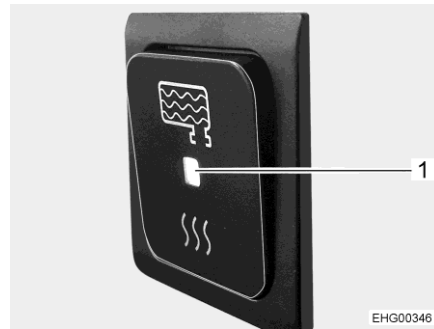

Fig. 95 On/Off switch, switched on
If the On/Off switch of the control has been switched on (Fig. 95), the waste water tank heater switches on automatically as soon as the external temperature drops below 0 °C. This protects the waste water tank from frost.
- Press lower part of the On/Off switch. The LED indicator (Fig. 95,1) is lit.
- Press upper part of the On/Off switch. The LED indicator (Fig. 95,1) goes out.